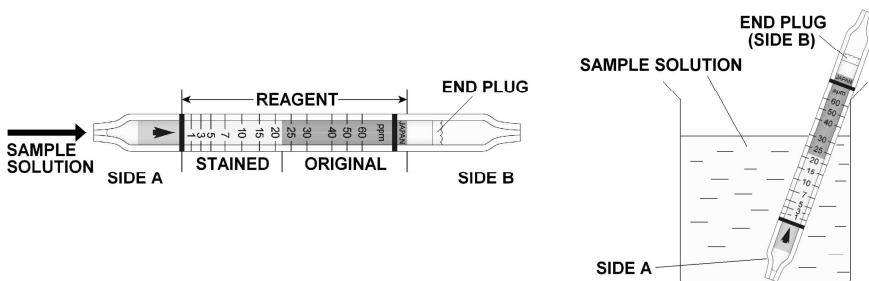

Fig.1
- ① Break both ends of the detector tube with attached ampule cutter.
- ② Immerse the end of the tube with side A into the sample solution to draw it up by capillary action as shown in Fig.1. (Arrow mark shall point to the surface of the sample solution.)
- ③ When the sample rises up to the end plug (side B), remove the tube from the sample solution.
- ④ Read the scale at the maximum point of the stained layer.
- ⑤ When the concentration of sample solution is over the 60ppm (full scale), dilute the sample solution accurately (by some ratio) with distilled or purified water and measure the sample solution and multiply reading value by the dilution ratio.